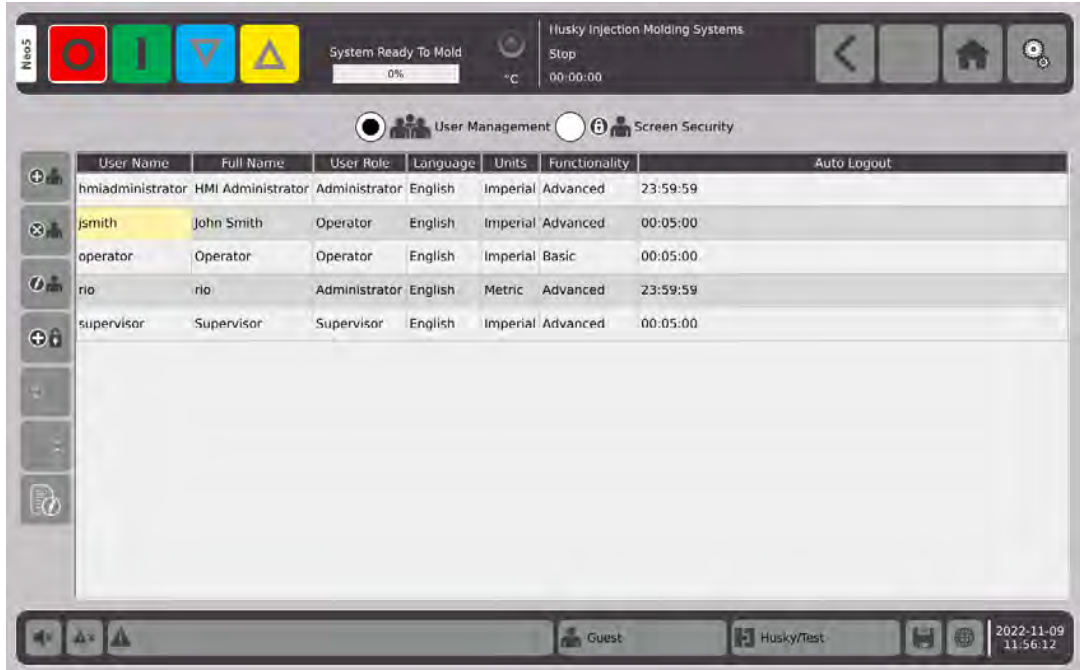

Figure 5-14 Select User to be Delete
1. Select the user in the **User Name** column as shown in Figure 5-14.